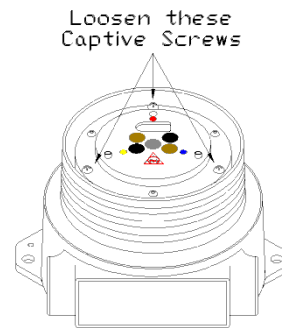

Figure 2-7
6. Loosen the three captive screws on the Detector Module “puck” (see Figure 2-7).